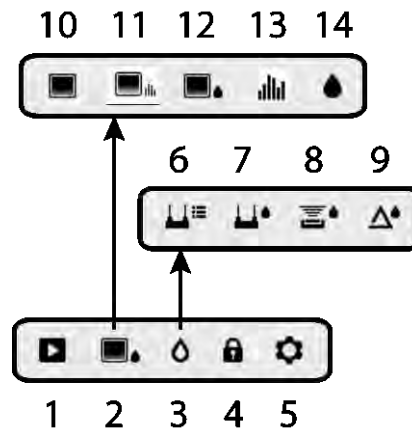

Fig. 4-2 Menu Icons
The Menu structure is outlined below and covered thoroughly in subsequent sections of this User Guide. The center Select button and the four (4) Navigation buttons are used to access and program the modes of operation available from the menus. Refer to Fig. 4-2.
Icons 1 through 5 in Fig. 4-2 make up the **Main Menu**. Press the Select button to open the Main Menu:
2. Image modes (items 10~14): IR, IGM Custom, IGM Moisture, Psychrometrics, Moisture
Icons 6 through 9 in Fig. 4-2 are available in the **Moisture Mode Menu**. Press icon 3 to view these Moisture modes. A blue dot is shown to the left of the pin icon (7) or the pinless icon (8), depending on which is selected.
Icons 10 through 14 in Fig. 4-2 are available in the **Image Mode Menu**. Press icon 2 to view the Image Mode menu.